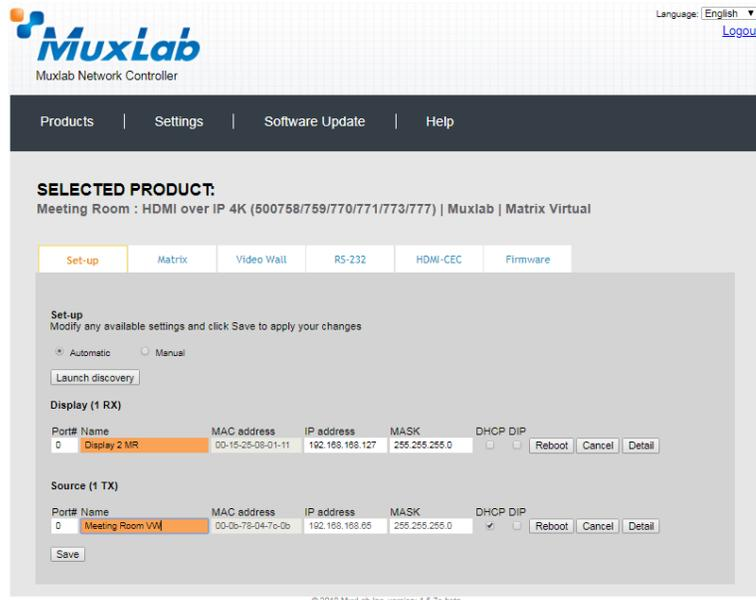

Figure 332: Name Editing
Each 500773 transmitter can be assigned an arbitrary descriptive name, normally reflecting the end device that it is terminated to. To change the name of any Source (TX) device, click the **Name** field to edit its contents. Several **Name** fields can be edited before saving changes, as shown in Figure 332 (orange highlighted fields).